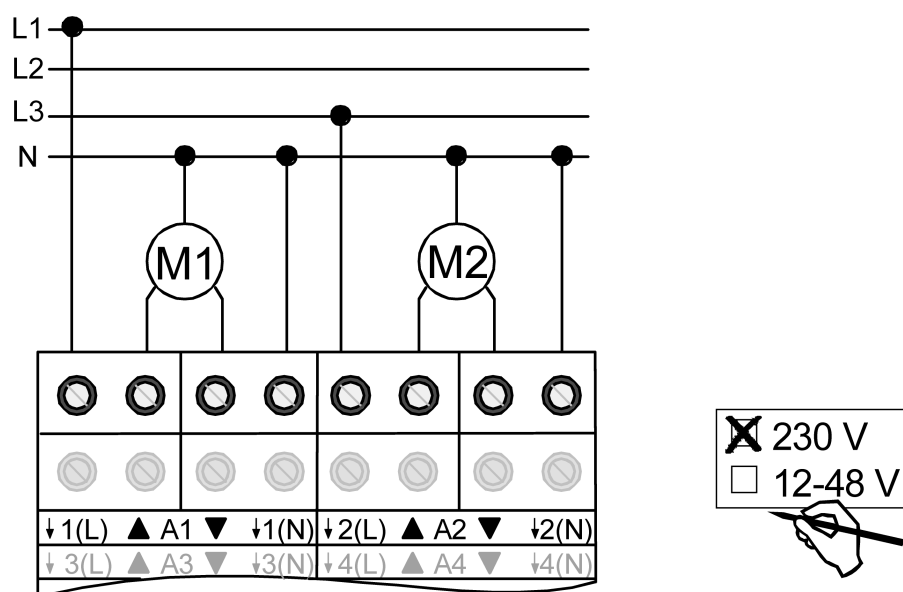

Figure 6: Electrical connection for 230 V drive motors for automatic limit position detection
- Connect the drives as shown in the wiring example (Figure 6).